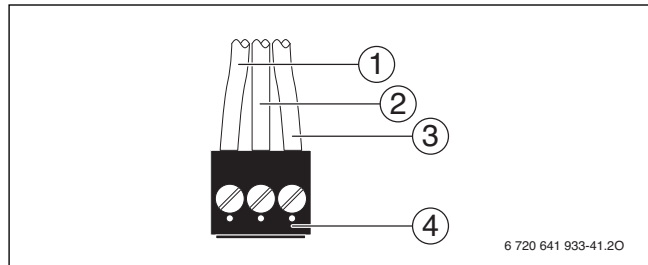

Fig. 51 Attach plug (external pump)
- ▶ Connect cable to **the black plug** according to Fig. 51.